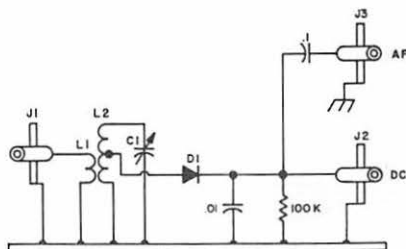
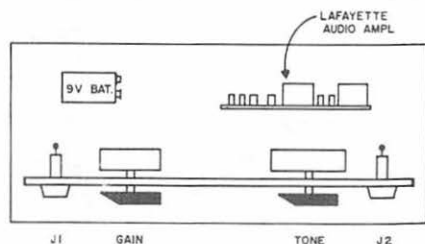

Fig. 2. Tuned diode detector.
Fig. 3. Handy af assembly, top view
*The diode detector.* Figure 2 shows the schematic of one of these useful pieces of equipment which allow you to listen to your transmitter multiplier stage as you build it, and check the actual frequency at the same time. I have a collection of them
*The AF Amplifier.* This item should not be neglected as it is at times a great aid to getting a trouble-free, *noiseless* carrier, which you can then modulate and be proud of. The valuable RCA handbook, "Transistors, Thyristors, and Diode Manual," has a lot to say about "discontinuous jumps in amplitude or frequency as various levels of drive are encountered." These little termites can be seen on the meter or heard on the af amplifier or can show up on both. Figure 3 shows a mounted version of the af amplifier used here for this purpose. It is a worthwhile and handy little piece of equipment to have in a lot of situations, in both receiver tests and transmitter tuneup. Just plug it into J3 of the diode detector in Fig. 2 and hear those unwanted clicks, whistles, rushing noises, squeals, etc., coming from what you may have wishfully thought was good clean rf in your multiplier drive!